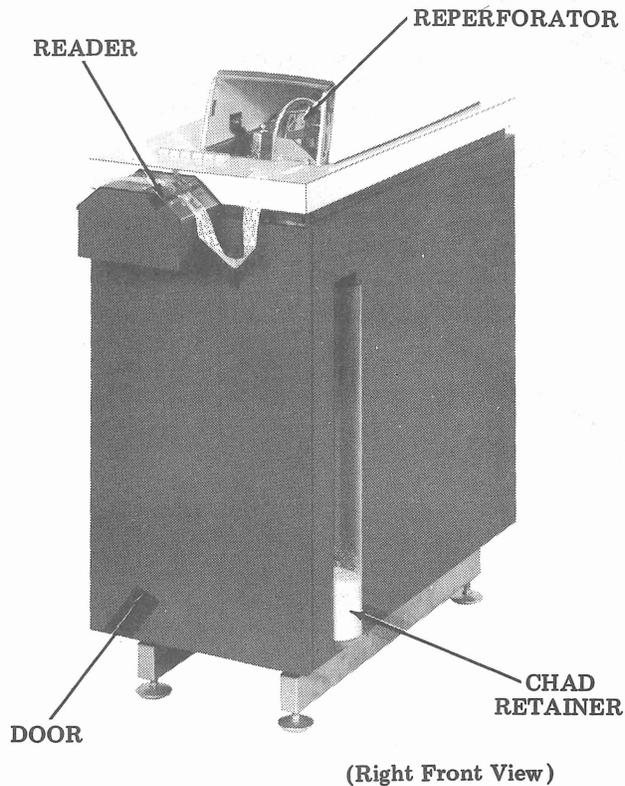

Figure 8 - 37 RT Module
2.08 Remove the RT module (Figure 8) from the pallet and place the module in the assembly area. Move the cabinet to the left side of the table and route the RT module interface plug (P310), and the power cord through the base of the cabinet and into the opening at the base of the table.